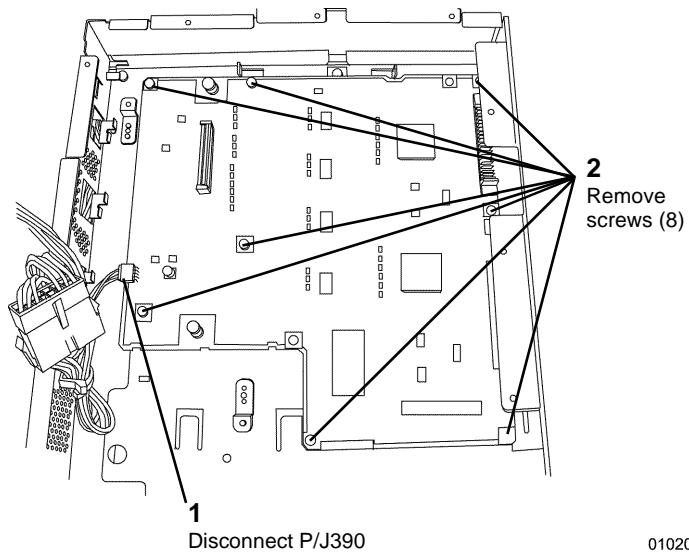

Figure 4 Removing the VSEL PWB
8. Remove the VSEL PWB (Figure 4).